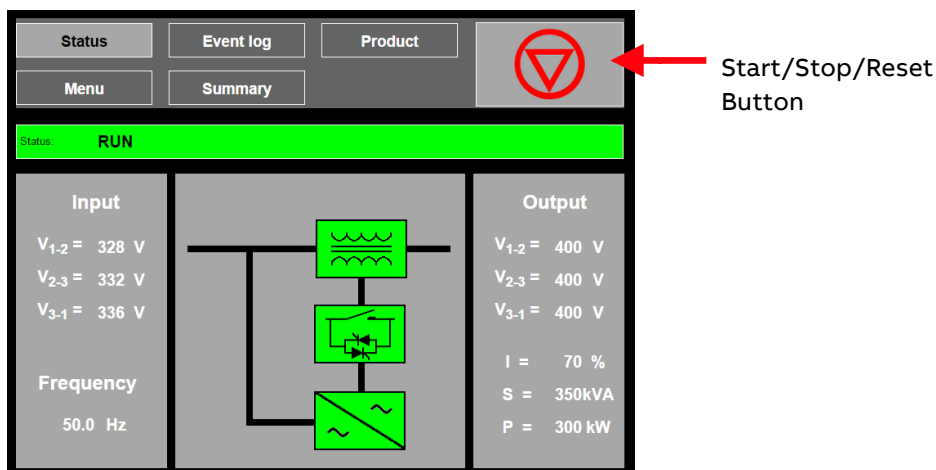

Figure 7-1: GDM status page
The Start (I) / Stop (O) /Reset button in the Navigation & Control Panel allows GDM control of the PCS100 AVC-40. When the PCS100 AVC-40 is stopped (Bypass) a green Start (I) button will show, and when running (RUN) a red Stop (O) button will show. Pressing the Start (I)/ Stop (O)/ Reset button followed by YES in the following confirmation screen will cause that action to be taken. Figure 7-1: GDM status page shows the status page when the PCS100 AVC-40 is running.